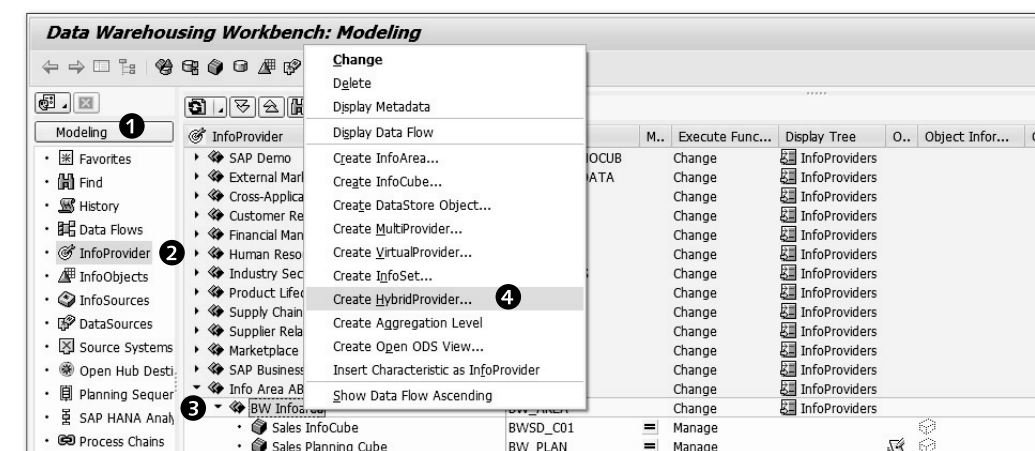

Figure 6.61 Creating a HybridProvider
A HybridProvider is created in the DATABASE WAREHOUSING WORKBENCH screen, which is started using Transaction RSA1. Select INFOPROVIDER under MODELING from the navigator section, as shown in ❶ and ❷ of Figure 6.61.